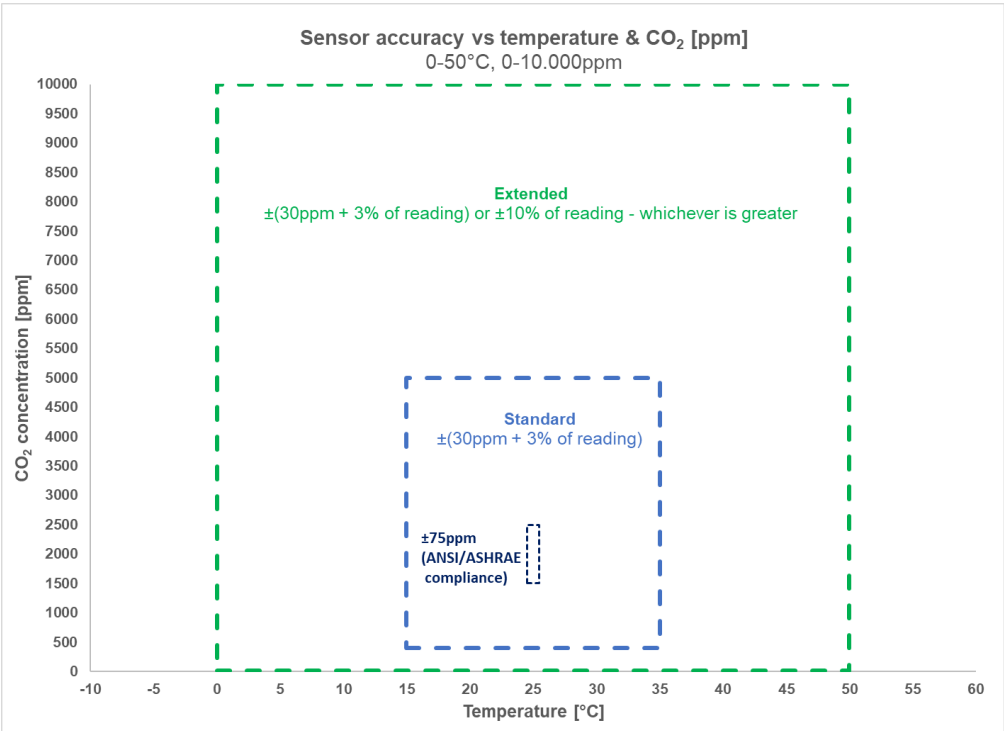

Figure 3 Accuracy over complete operating range (temperature and measurement range of CO₂)
- Note 2: Accuracy in the table is defined at 25 °C, 1013 mbar ambient pressure and 50% RH. The accuracy of the complete operating range is specified in Figure 3.